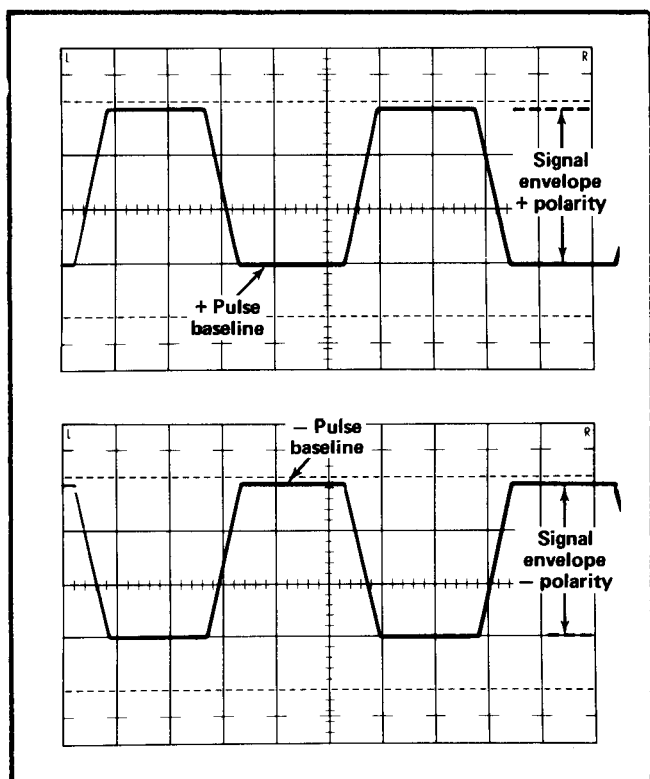

Fig. 6-9. Test oscilloscope display for checking adjustment of negative-going pulse DC level.
r. CHECK FOR—Test oscilloscope display with the signal envelope of the negative going pulse at the same level as that of the positive going pulse  $\pm 1$  mm (see Fig. 6-9).